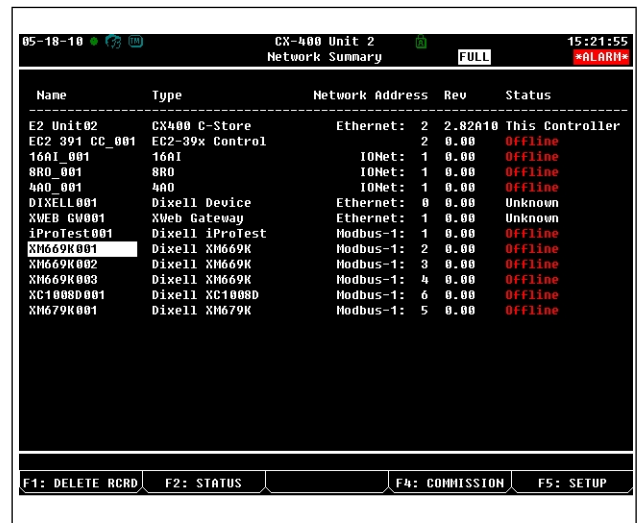

Figure 18-6 - Network Summary Screen
8. When finished, press **ESC** to return to the **Network Setup** menu, then press **F1** - **Network Summary** (Figure 18-6). Locate the devices you set up, and look at each device's status in the **Status** field. You will see one of the following messages: